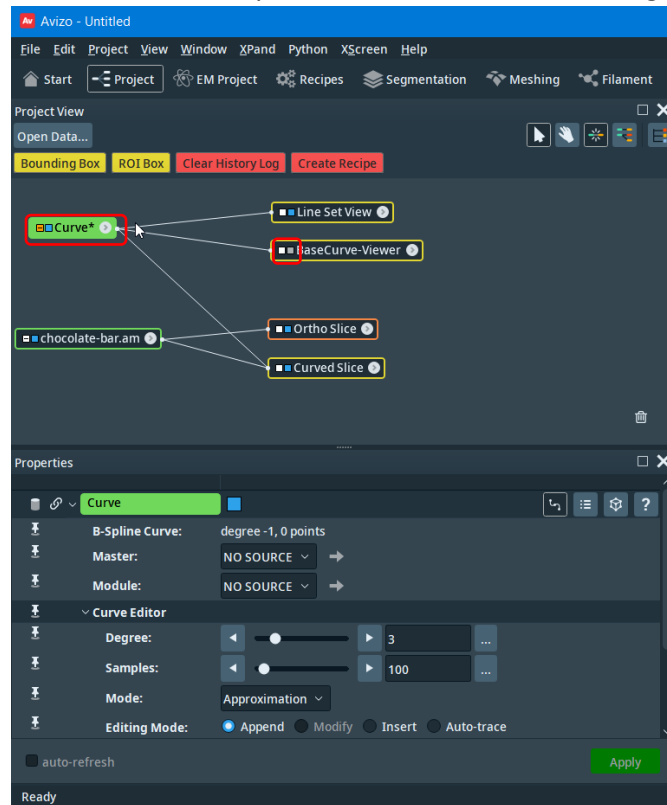

Figure 3
7. Turn off the BaseCurve-Viewer visibility and select the Curve module. Figure 3